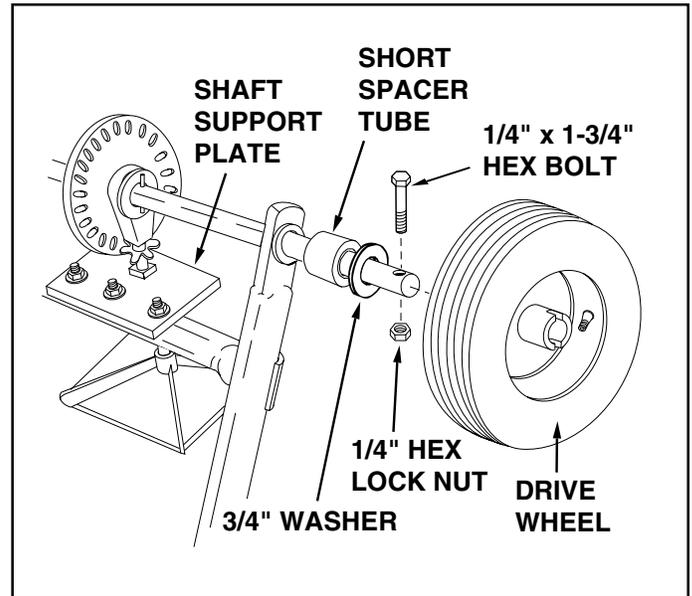

FIGURE 2
5. Place the short spacer tube and a 3/4" washer onto the end of the axle that has the large drilled hole (left hand side). See Figure 2.
6. Place the drive wheel onto the axle. The notched hub and the air valve should face to the outside. See Figure 2.
7. Fasten the wheel to the axle using a 1/4" x 1-3/4" hex bolt and a 1/4" hex lock nut. See Figure 2.
1. If the axle, slotted gear and sprocket assembly is disassembled, mark down the positions of the parts as they are removed. The drive wheel and sprocket positions in relation to the slotted gear determine which direction the spreader plate will spin. Be sure to reassemble them in their original positions. (Refer to figure 2 on page 4.) Use shim washers (Ref. no. 20 on pages 10 and 11) as needed for minimum backlash. Add grease to gear and sprocket.